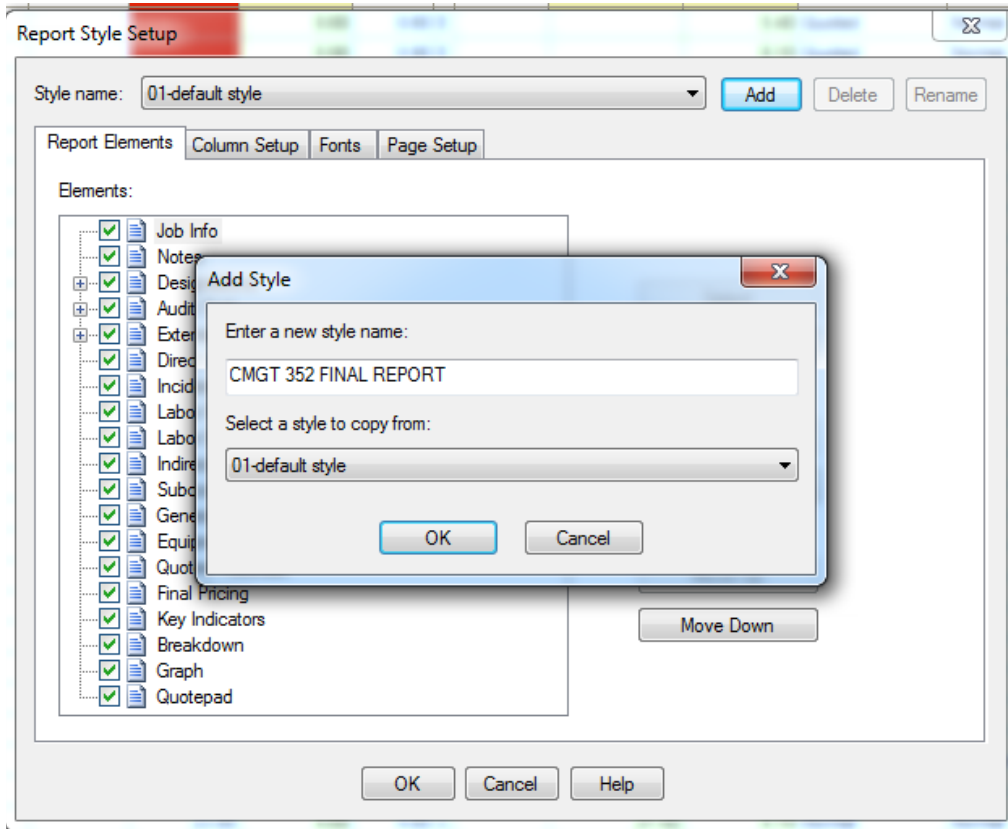

Fig. 2
6. In the Add Style box enter the new style name and select the style to copy from (see Fig. 2).